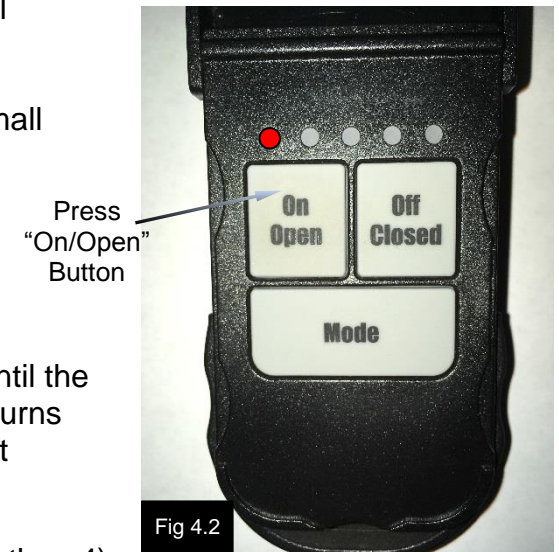

Fig 4.2
2. To program the remote, open the flip style lid and make sure the remote is set to mode one (the first light is flashing). See figure 4.2